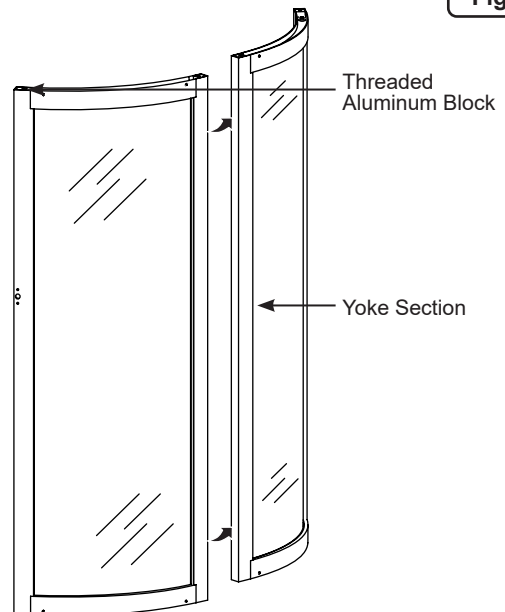

Fig. A2
- Determine the installation location for the Yoke. Identify the threaded aluminum block is at the top of each section. (Figure A2).
- Push the two sections together (Figure A2).
Follow the steps shown in Appendix A (Figures A2 - A10). When complete, refer to the "Roto Installation" to continue the installation.